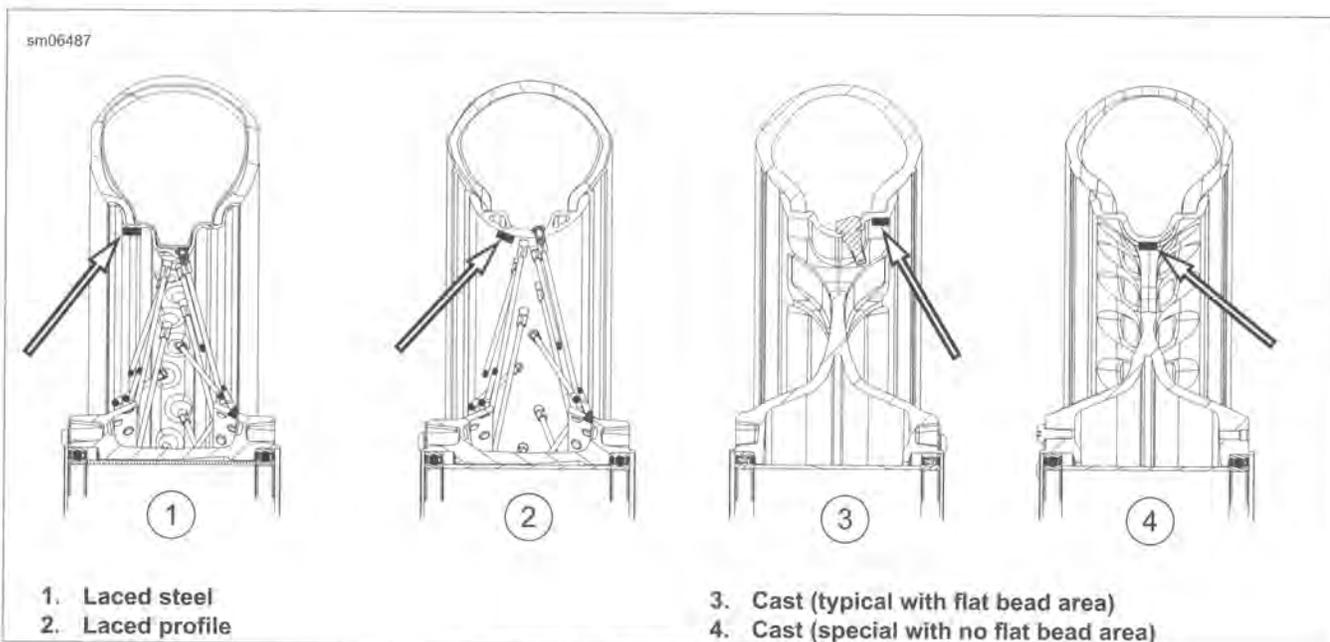

Figure 2-43. Wheel Weight Placement
1. See Figure 2-43. Place weights on a smooth surface of the wheel rim such that centrifugal force will help keep them in place. Make sure the area of application is completely clean, dry, and free of oil and grease.